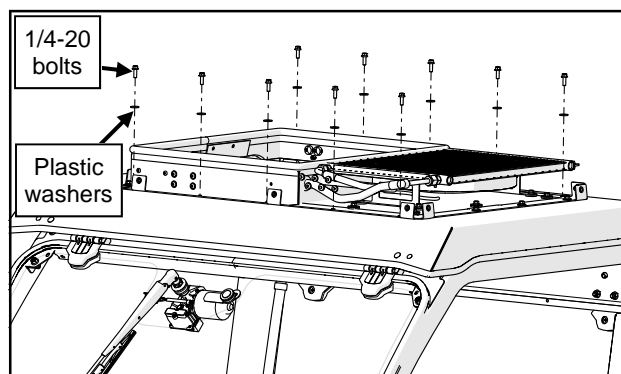

Fig. 2.19 (Install Outer Roof to Inner Roof)
**2.19** With assistance, remove the blocks holding the roof assembly above the roof pan and lower the roof into place. Ensure that no wires are pinched under the A/C unit or roof, then fasten the roof and A/C Unit to the lower roof pan, through the holes in the front and rear of the A/C unit. Fully tighten only after all 10 fasteners are in place. Figure 2.19